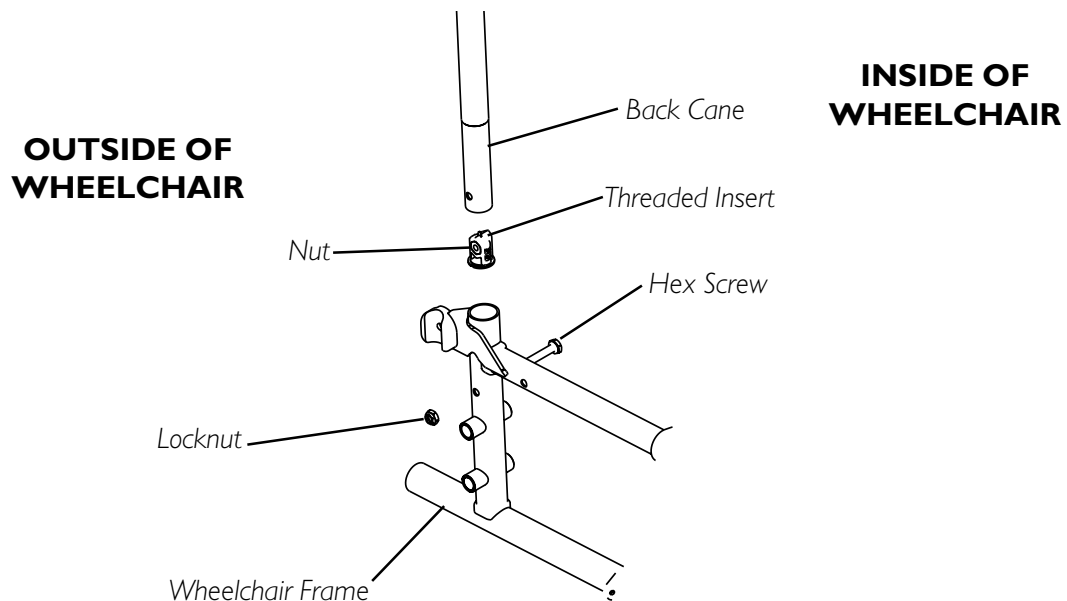

FIGURE 1 - INSTALLING THE BACK CANE TO THE WHEELCHAIR
INSTALLING THE BACK CANES (FIGURE 1)
1. Remove the hex screw and locknut from the bottom of one (1) back cane.
4. Position the hex screw through the wheelchair frame, back cane, and threaded insert as shown in FIGURE 1.